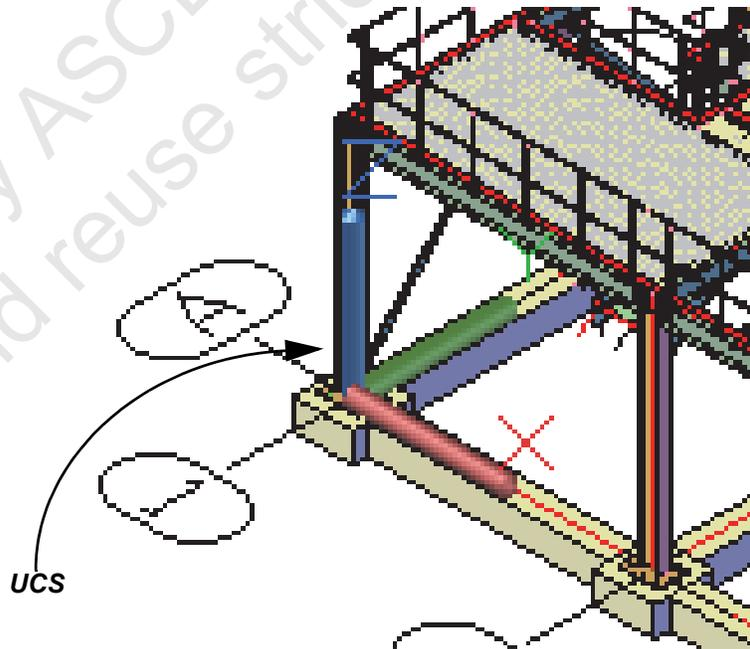

Figure 1–34
1. Locate the UCS icon in the lower left of the model at column A1, as shown in Figure 1–34. Note the direction of the X, Y, and Z-axes.